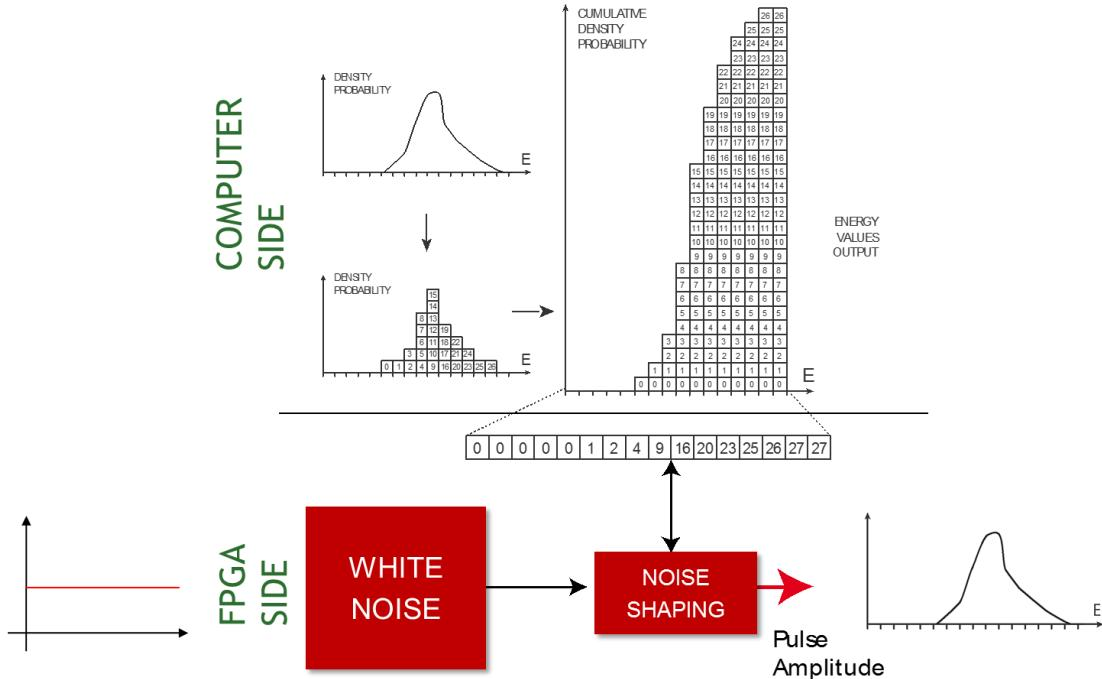

Fig. 6.2: Emulation of a spectrum.
With reference to Fig. 6.2, each square of each column is sequentially numbered. Consider the simplified case in which the total number of squares under the curve is a power of 2, e.g. $2^5=32$. Using 5 bit in the random number generator, all the 32 numbers can be obtained with the same probability, i.e. the random numbers map completely the area under the spectrum curve. Every time a random number is generated, the algorithm searches the number in the spectrum area and, when finds it, delivers the bin number n thus indicating the corresponding energy value E_n . If we consider again a generic x bin two times higher than a y bin, it is easy to see that, since the random numbers with equal probability map all the squares, there is twice the probability that the random number picks up a square in x rather than in y column, which means that generated pulses with E_x energy are twice those with E_y energy.
In this way, only one memory cell per bin is required. Using the cumulative spectrum, it is still possible to identify the bin that contains the generated random number by means of an extension of the described algorithm. For instance (see **Fig. 6.2**), if the random number is 18, it is easy to see that it belongs to the memory cell number 10: in fact, the cell number 10 contains a number that is higher than 18 (20), while the previous cell contains a number that is lower (16); this means that bin number 10 contains the squares that go from 16 to 19, exactly the range in which 18 belongs. So the output energy value correspondent to the random number 18 is 10.